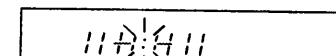

Fig 38.
- Press one of the TRACKING buttons on the remote control unit until the flashing point reaches the centre position of the tracking range (colon) on the FL display as shown in Fig 38.